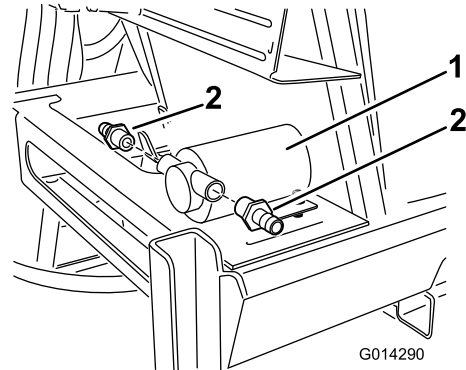

Figure 20
3. Locate the straight barb hose connectors in loose parts. Install a connector to the pump inlet and outlet openings (Figure 20).